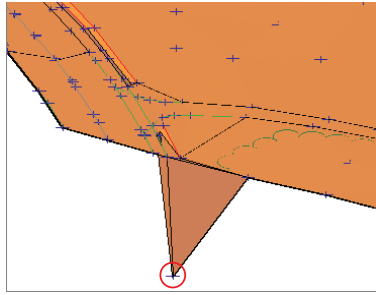

FIGURE 4.14 3D view of incorrect surface point
5. When prompted to select a point, click the point in the 3D view that is located well below the other points (see Figure 4.14). Press **Enter**.